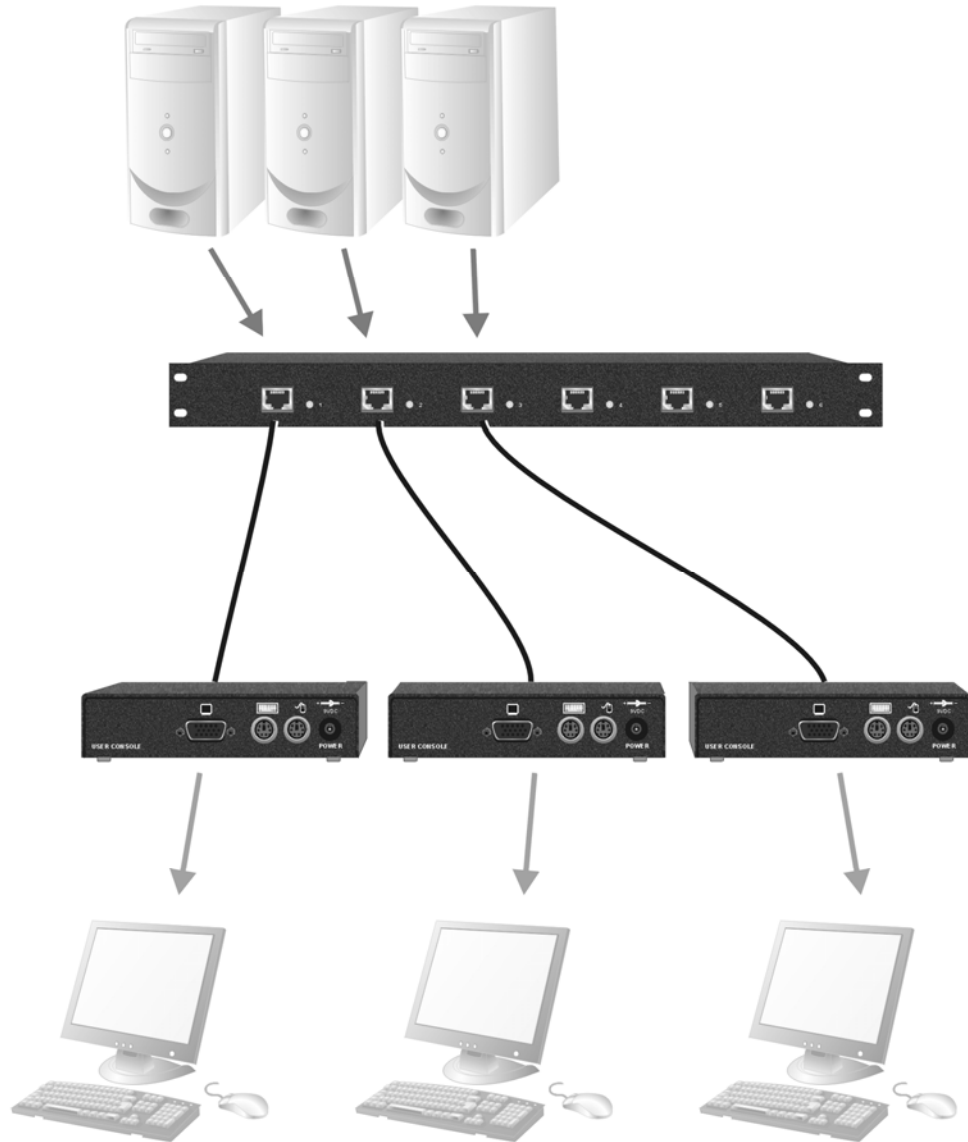

Figure 10 Simple system using SDRK/6 Hub and SDBX/R1 Remote Units
- Individually, connecting a single-head SDBX Remote Unit to each port (see Figure 10)